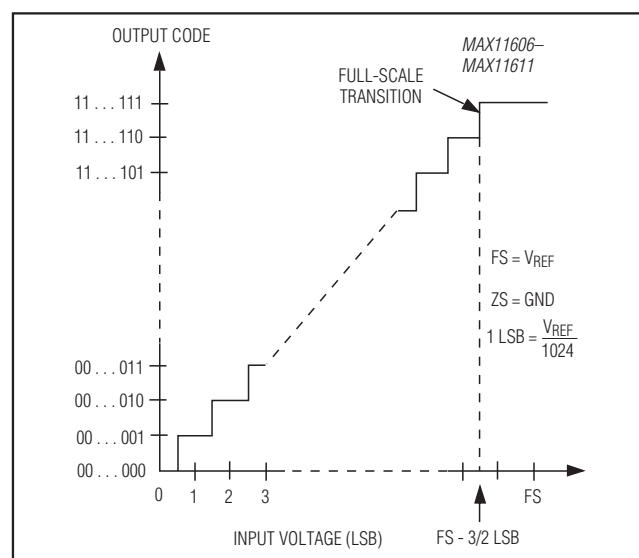
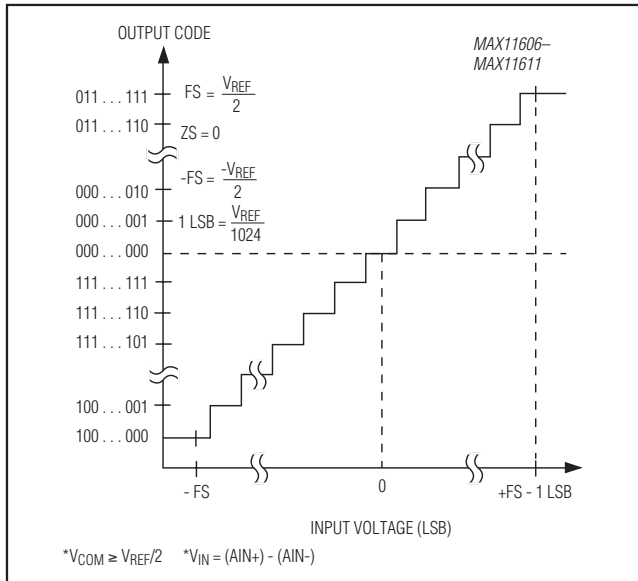

Figure 12. Unipolar Transfer Function
Figure 13. Bipolar Transfer Function
Output data coding for the MAX11606–MAX11611 is binary in unipolar mode and two's complement in bipolar mode with 1LSB = (V_{REF}/2N) where N is the number of bits (10). Code transitions occur halfway between successive-integer LSB values. Figure 12 and Figure 13 show the input/output (I/O) transfer functions for unipolar and bipolar operations, respectively.